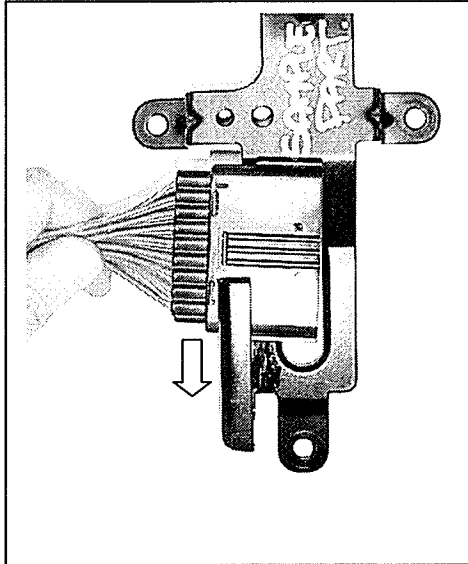

Figure 35:
- b) Fix the male connector to the bracket first as shown in these figures. Move the male connector down as the arrow shows in figure 35 until the locking feature is engaged with the holes in the bracket.